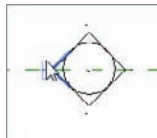

FIGURE 3.86 The revised, less-obtrusive elevation markers
5. Zoom back in on the elevation markers. They should look like Figure 3.86.